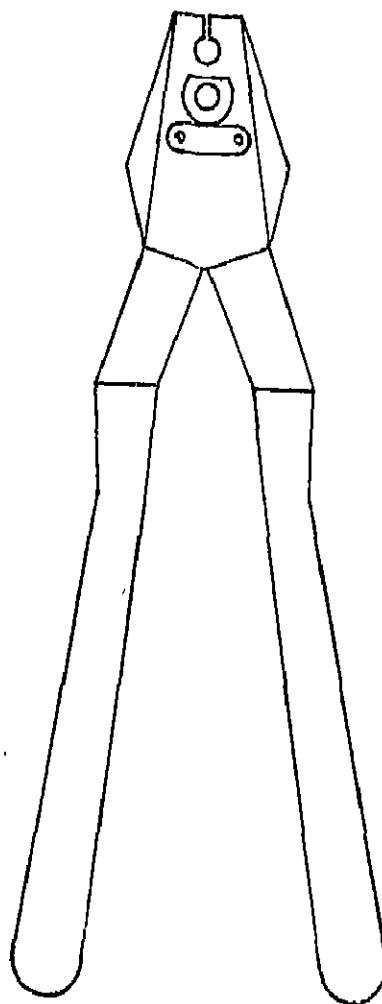

Fig. 18.1 Hand operated Compression Tool
- (i) Hand operated compression tool (Fig. 18.1)